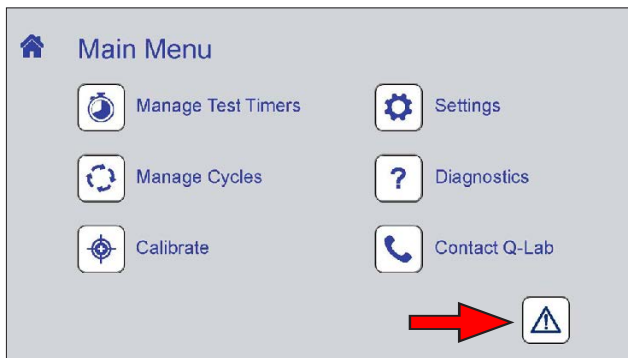

Figure 10.4a: The notifications icon. Icon color changes depending on notification status.
- On the Main Menu screen, touch the notification icon to display the Notifications Screen (Figure 10.4a).